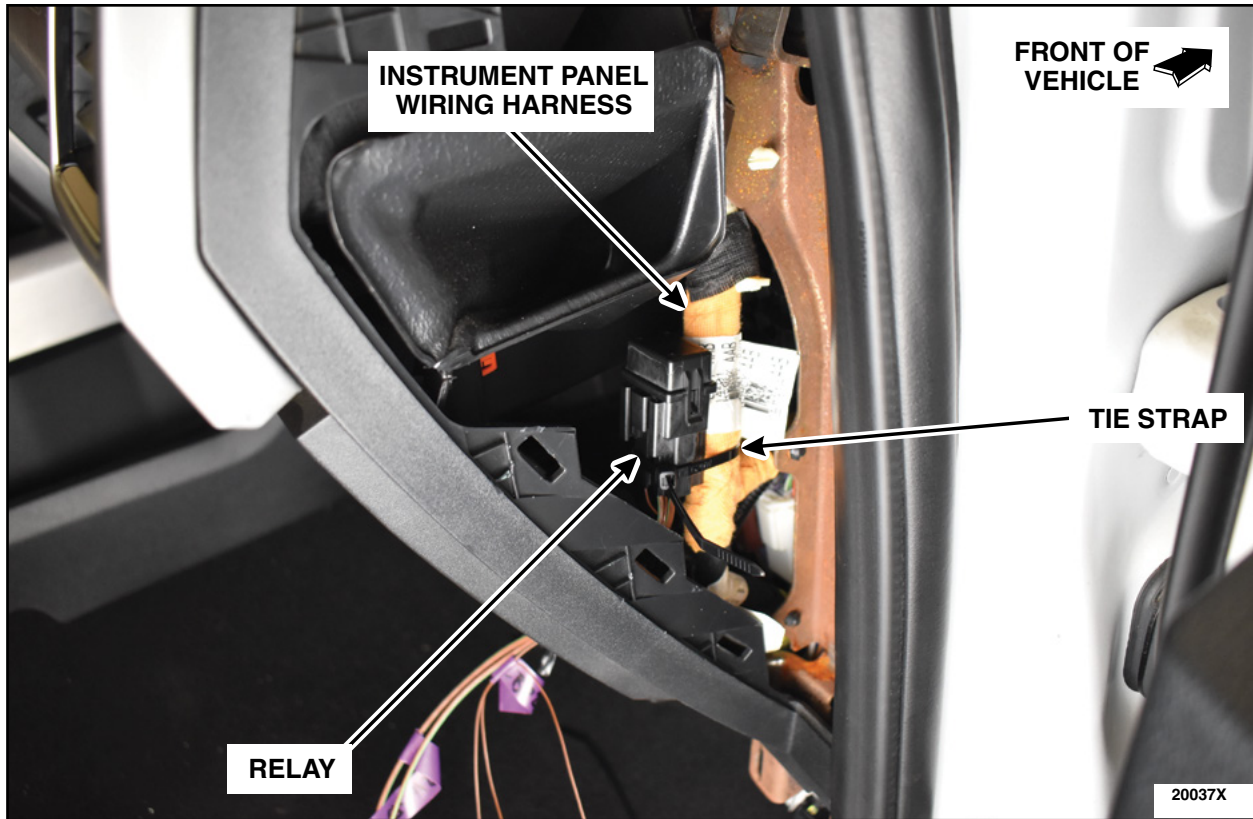

FIGURE 23
40. Place the relay, included in the kit, onto the instrument panel wiring harness and secure using a tie strap. See figure 23.